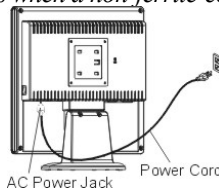

Figure 1-6
1. Connect the power cord to the LCD Monitor. (See Fig. 1-6)